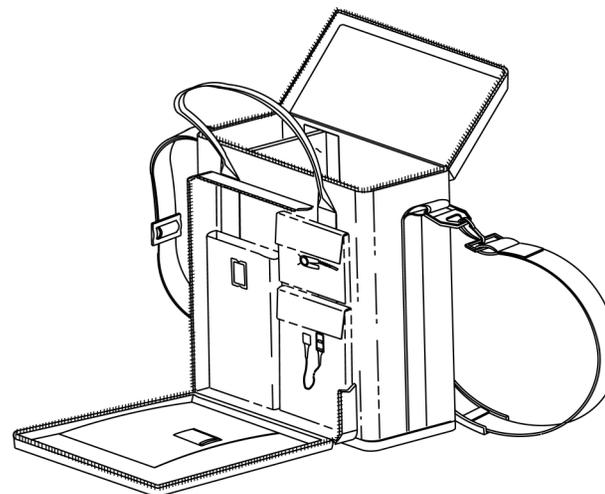

Figure 8: Soft Sided Carrying Case
- Soft Sided Carrying Case. See Figure 8, page 18.
An optional soft-sided carrying case is available from Nellcor Puritan Bennett for the N-395. See Figure 8. The padded carrying case protects the N-395 while transporting the monitor. The carrying case contains two pockets for sensors, cables, and operator's manual.